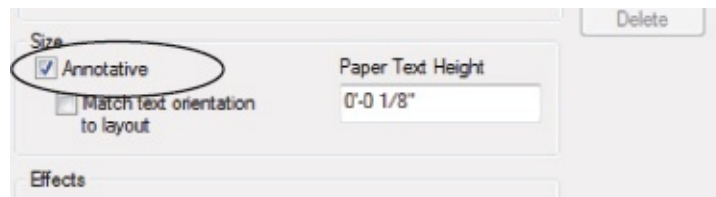

FIGURE 9.3 The Annotative option in the Text Style dialog box
6. Select the Annotative option in the Size group (see Figure 9.3).